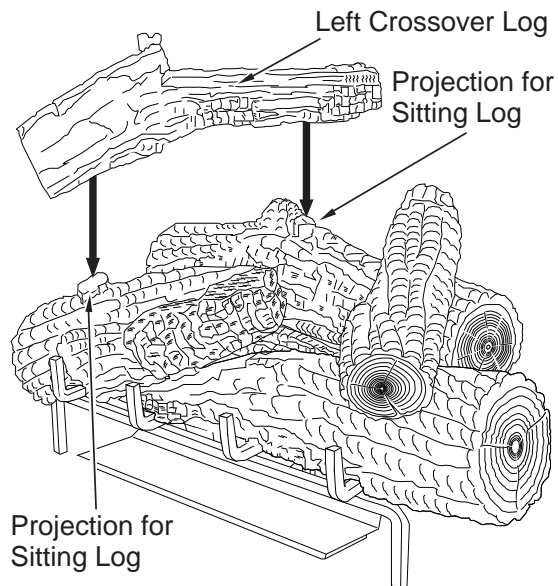

Figure 38 - Installing Left Crossover Log
6. Place the left crossover log onto the rear log and the left front log as shown in **Figure 38**. The left crossover log has notches in the bottom that will line up with the projections on the rear log and the left front log.